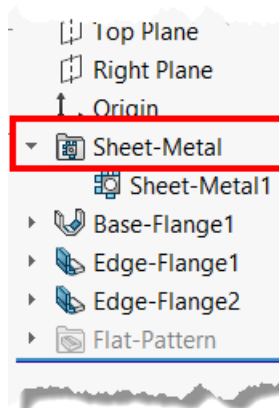

Figure 19b
You can control the sheet metal Bend Allowance options (bend allowance, bend deduction, and K-factor) from different areas of the user interface (UI). In the default installation, the top-level Sheet Metal features control all of these options for lower level sheet metal bodies (Figure 19b).